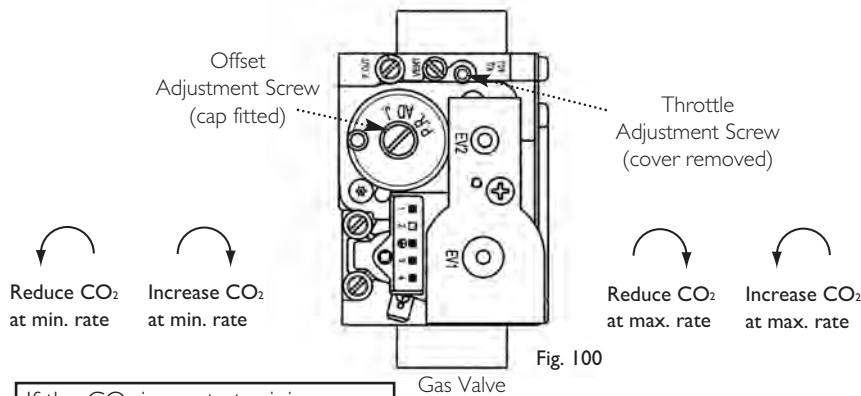

Fig. 100
8. It is possible to alter the CO2 by adjustment of the gas valve. Remove the plastic cover from the Throttle Adjustment Screw. At maximum rate the Throttle Adjustment Screw should be turned, using a suitable hexagon key, until the correct reading is obtained (Fig. 100). Turning clockwise will reduce the CO2. Anticlockwise will increase the CO2.
10. With the boiler on minimum, the Offset Adjustment Screw must be altered, using a suitable hexagon key, after removing the cap (Fig. 100). Turning anti-clockwise will reduce the CO2. Clockwise will increase the CO2.